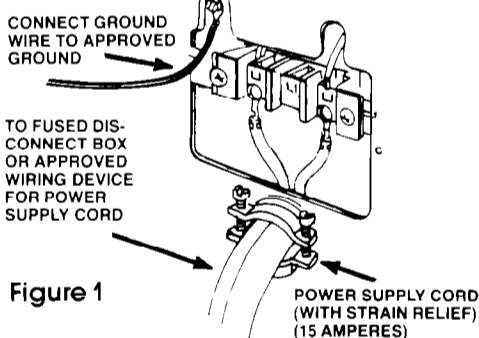
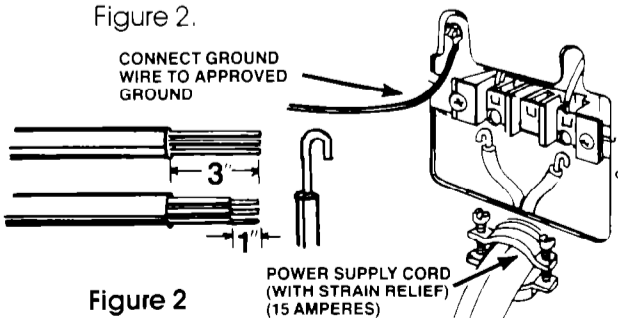

Figure 1
Figure 2
2. Connect the two wires of the power supply cord to the outer terminals of the terminal block. See Figure 1. For connecting plain-end field wire, see Figure 2.
NOTE: Plain-end field wires must be fastened between the terminals of the terminal block and the nuts of the terminal block screws as shown in Figure 2.